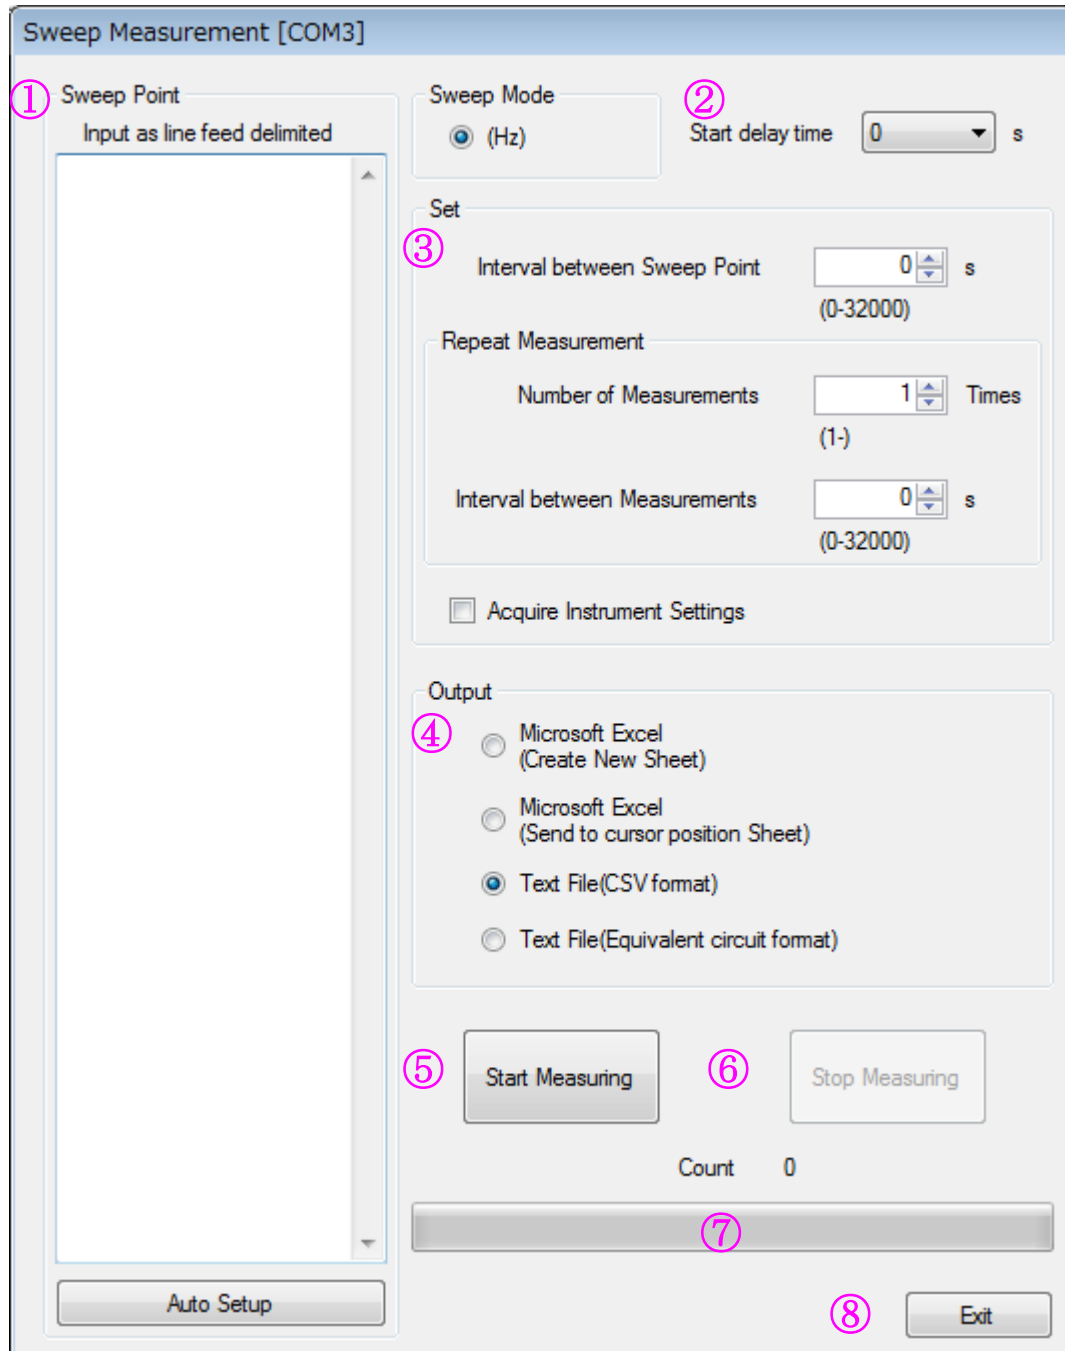

Fig 3-15. Sweep Measurement
- (1) Select [Measure]-[Sweep Measurement] of menu bar.
- (2) [Sweep Measurement] screen will appear. (Fig 3-15)
- (3) Set [Sweep point] section, [Sweep Mode] section, [Set] section, and [Output] section, then click [Start Measuring].